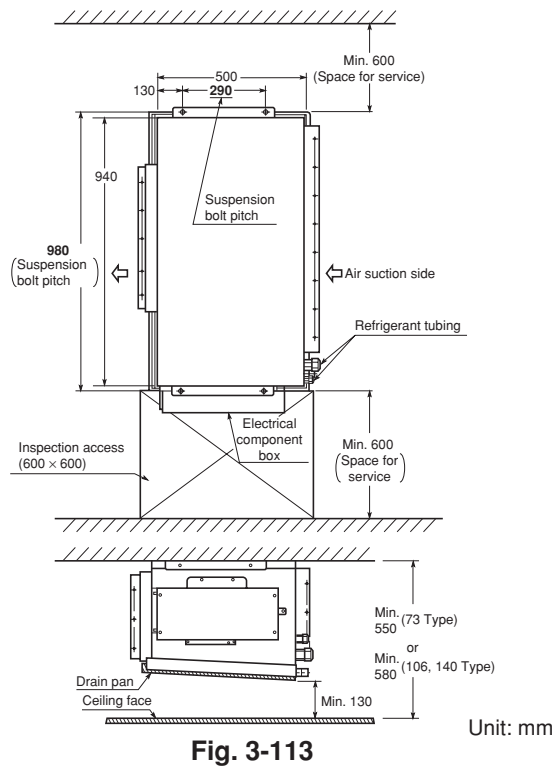

Fig. 3-113
- The minimum space for installation and service is shown in Fig. 3-113.
(Fig. 3-113)